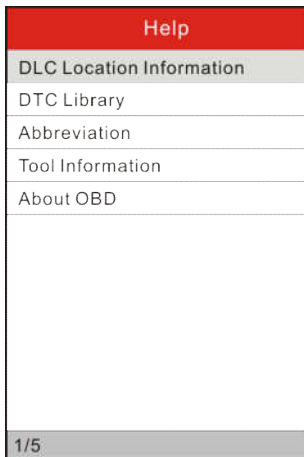

Figure 7-4
6. Highlight the “Tool Information” in figure 7-4 and press [OK].